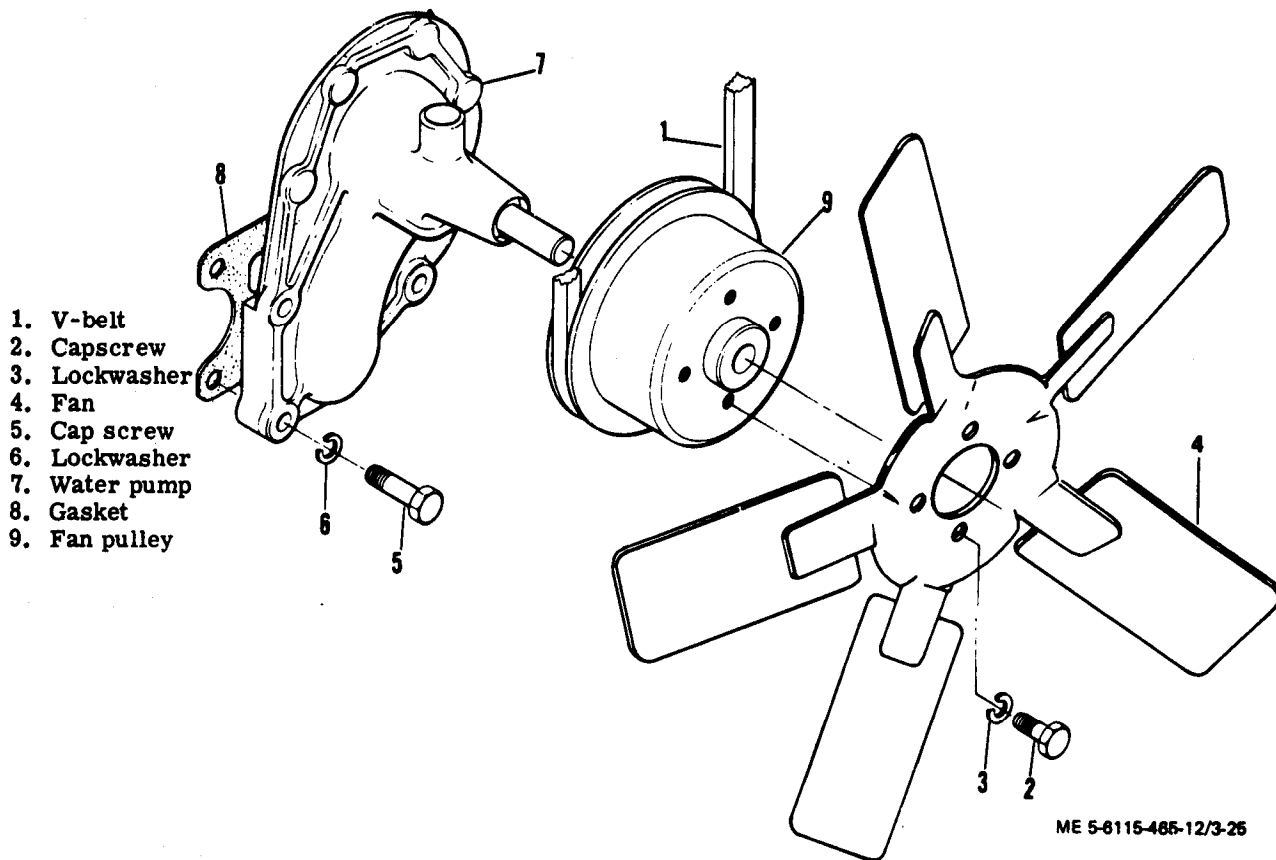

Figure 3-25. Water Pump, Cooling Fan and V-Belt, Removal and Installation
(2) Loosen battery charging alternator mounting hardware (paragraph 3-68).
(3) Rotate alternator toward cooling fan until v-belt is slack enough to slip over alternator pulley.
(4) Remove v-belt (1, figure 3-25) from fan pulley and crankshaft pulley.
(5) Slip v-belt between cooling fan and radiator.
(1) Remove right side fan guard (paragraph 3-31b. (3)).
(2) Remove v-belt as outlined in paragraph 3-90.
(3) Remove cap screws (2, figure 3-25), lockwashers (3) and fan (4).
- (1) Drain radiator (paragraph 3-31).
- (2) Remove radiator hoses from water pump (paragraph 3-31).
- (3) Remove cooling fan as described in paragraph 3-91 above.
- (4) Remove cap screws (5, figure 3-25), lockwashers (6) and nut (10) to remove water pump (7) and gasket (8).
- (5) Do not remove fan pulley (9) unless inspection reveals damage.